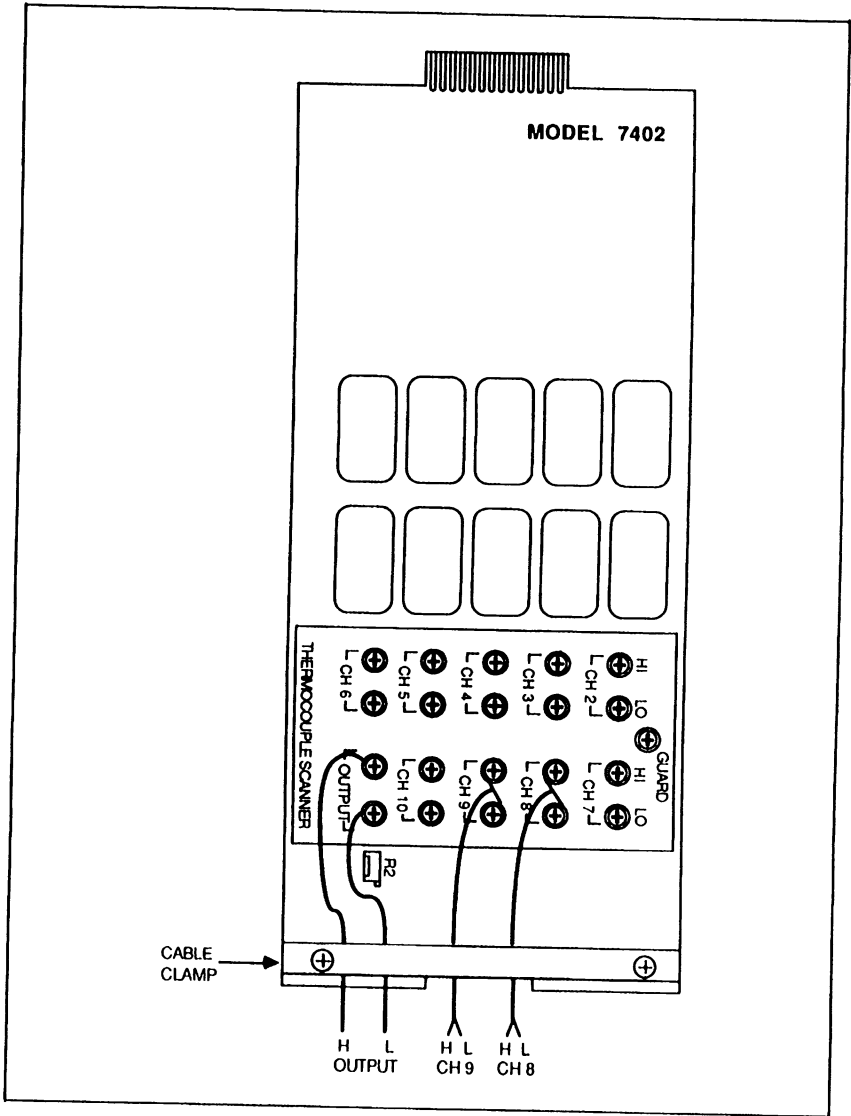

Figure 2-1. Connections and Wire Routing
2. On the Model 7402, connect the thermocouple positive lead to the channel HI screw terminal and the negative lead (red insulation) to the channel LO screw terminal. See Figure 2-1. The screw terminals accept #18 to #36 AWG (0.044 to 0.005 inch) wire. Do not let the wire get under the overlay as it might short to the isothermal block.